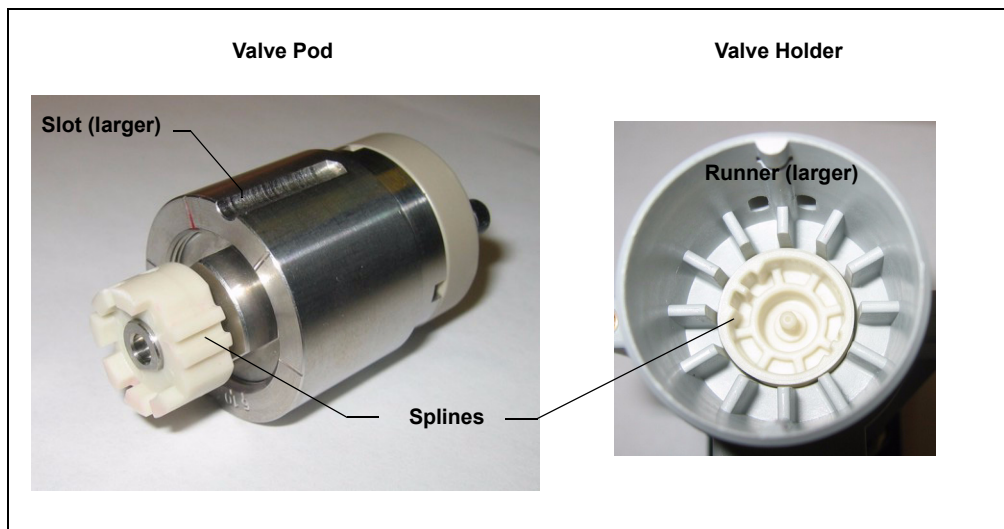

Figure 9-25. High-Pressure Valve Pod and Pod Holder
6. Align the slots in the new pod with the runner in the valve holder on the DC or AM (see Figure 9-25). Valve pods are keyed to fit only one way (one slot is narrower than the other). Verify that the slots are aligned with their matching runners.
- Also verify that the two splines on the pod align with the matching splines inside the valve holder (see Figure 9-25). If necessary, twist the end of the pod to adjust the position of the splines.